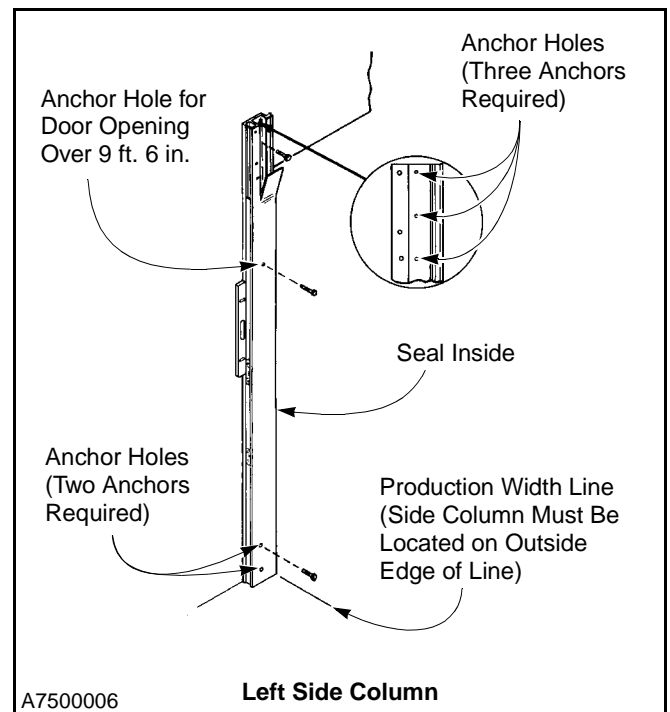

Figure 11
3. Align the inside edge of the side column with the production width line laid out earlier on the floor. The side column must be located on the outside edge of the layout line. (See Figure 11.)
- Once the side column is properly positioned, secure it to the wall using the appropriate anchors. (See "ANCHORING METHODS" on page 3.) Anchor holes have been provided in the side column. (See Figure 11.) DO NOT tighten the anchor hardware at this time.
- Once the pullout/side column assembly is properly positioned, secure it to the wall using the appropriate anchors. (See "ANCHORING METHODS" on page 3.) Anchor holes have been provided in the pullout. (See Figure 11.) DO NOT tighten the anchor hardware at this time.